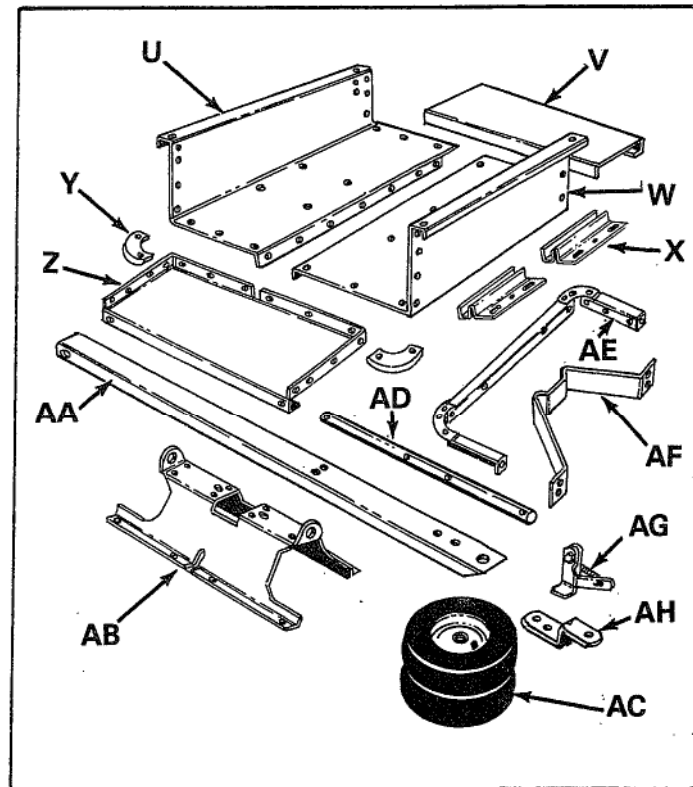

FIGURE 2.
IDENTIFICATION OF LOOSE PARTS (See figure 2)
LOOSE PARTS (See figure 2)
2. Layout all the parts as shown in figure 2.